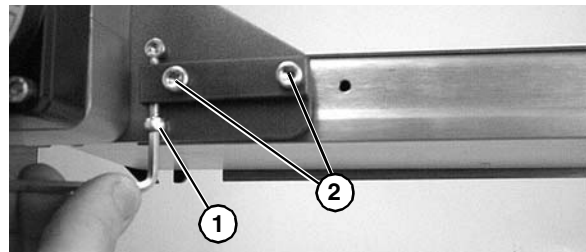

Figure 9
- Tighten timing belt tensioner screw (**Figure 9, item 1**) to 15 in-lb (1.7 Nm).
- Tighten screws (**Figure 9, item 2**) to 80 in-lb (9 Nm).